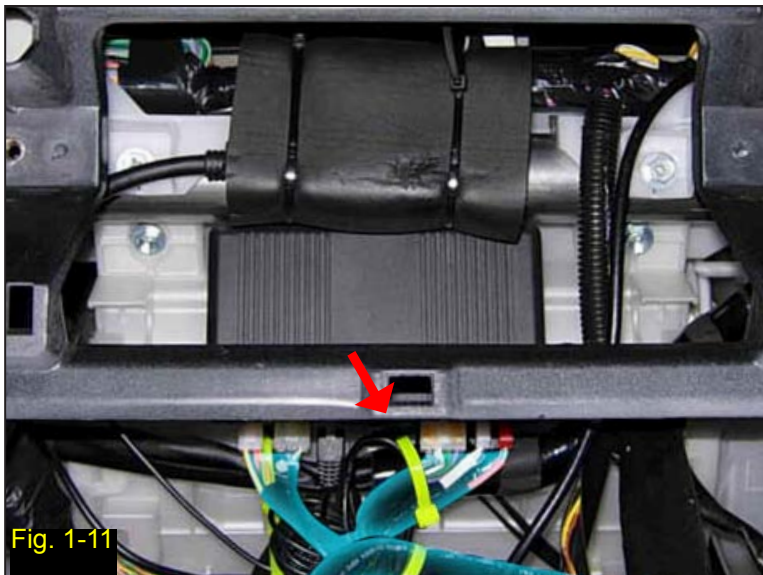

Fig. 1-11
NOTE: If vehicle is equipped with a Toyota iPod Accessory Module, rotate the module up to allow clearance to secure the BLU Logic module. (Fig. 1-11).
3. Secure the BLU Logic wire harness to the existing harness with a wire tie marked by the red arrow (Fig. 1-11).